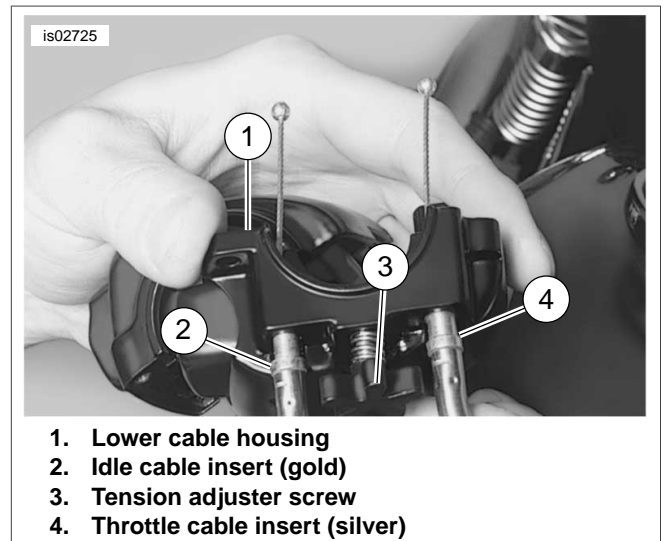

Figure 6. Upper Right Handlebar Switch Housing
6. See Figure 6. Pull the crimped inserts at the end of the throttle and idle control cable housings from the lower switch housing. For best results, use a rocking motion while pulling. Place a drop of light oil on the retaining rings, if necessary. Save inserts for re-installation.
12. Refer to Figure 6. Push the throttle and idle control cables into the lower switch housing until they snap into place. Perform the following: